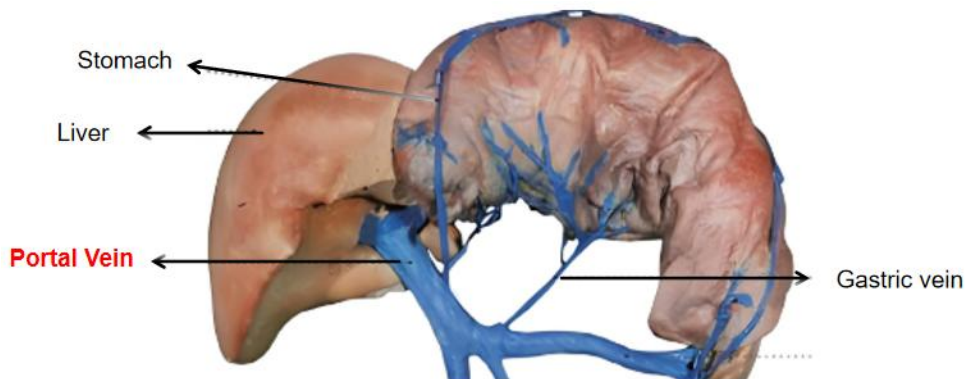
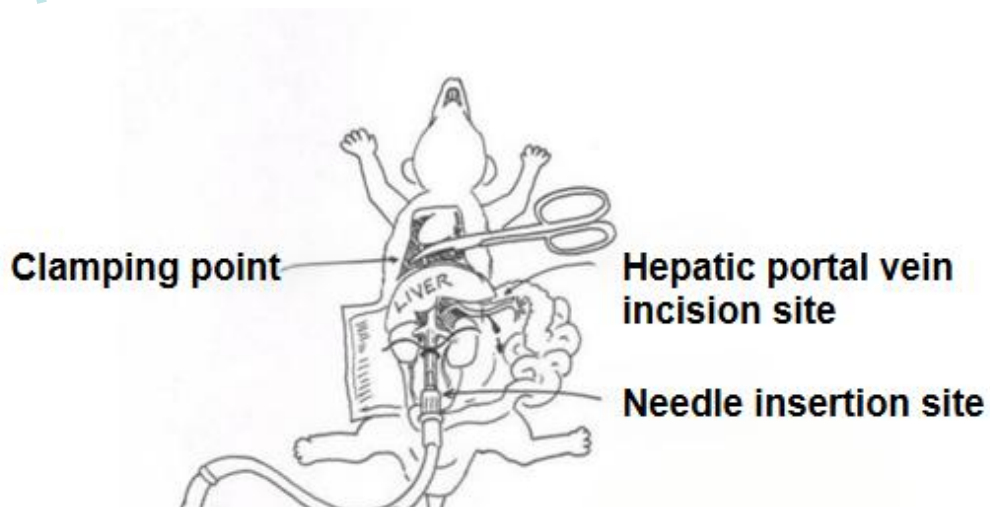

Figure 2. Schematic diagram of hepatic portal vein anatomy
Figure 3. Overview diagram of perfusion process
- b. Turn on the peristaltic pump and slowly infuse the Pre-perfusion Solution For Rat Hepatic Parenchymal Cells until the liver becomes fully distended. At this time, use Ophthalmic Scissors 2 to cut open the hepatic portal vein for drainage (marked in Figure 2), maintaining a perfusion rate at 20 mL/min until all blood in the liver are completely drained and the liver tissue turns waxy yellow(the perfusion process is shown in Figure 3).
② **Manual Perfusion**
- f. Gently push the syringe to allow the Pre-perfusion Solution into the rat liver tissue. Use a timer to start the timing, control the infusion rate, and maintain the flow rate at around 20 mL/min. When the liver is full, use Ophthalmic Scissors 2 to cut open the hepatic portal vein for drainage (marked in Figure 2). Keep perfusion until the blood in the liver are completely drained and the liver tissue turns waxy yellow(the perfusion process is shown in Figure 3).